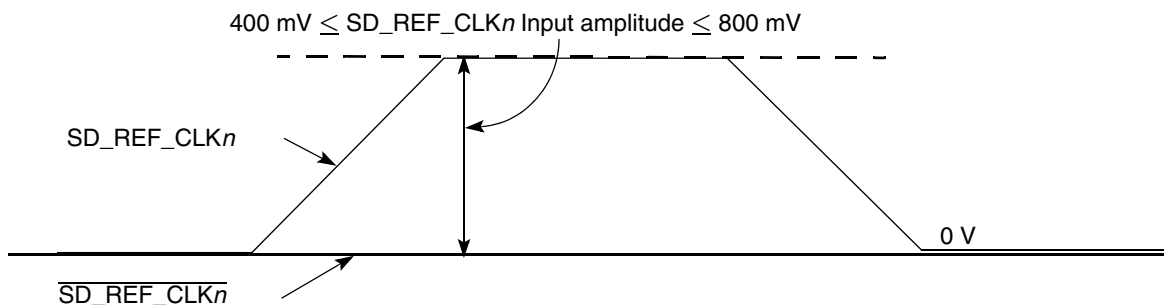

Figure 36. Single-Ended Reference Clock Input DC Requirements
- The SD_REF_CLK_n input average voltage must be between 200 and 400 mV. Figure 36 shows the SerDes reference clock input requirement for single-ended signaling mode.